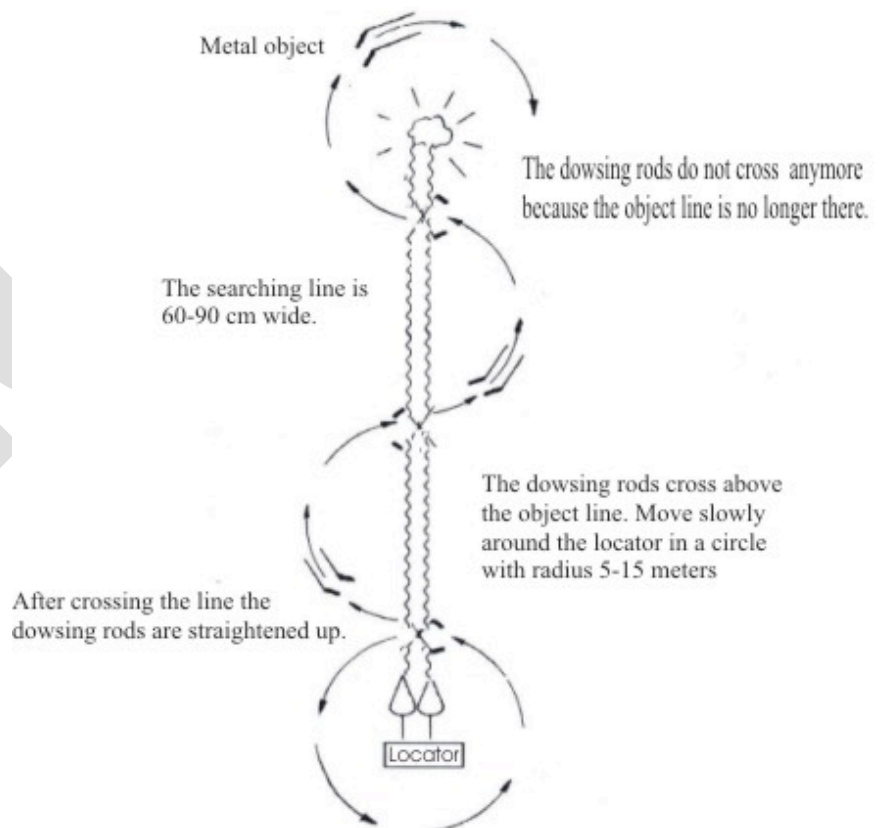
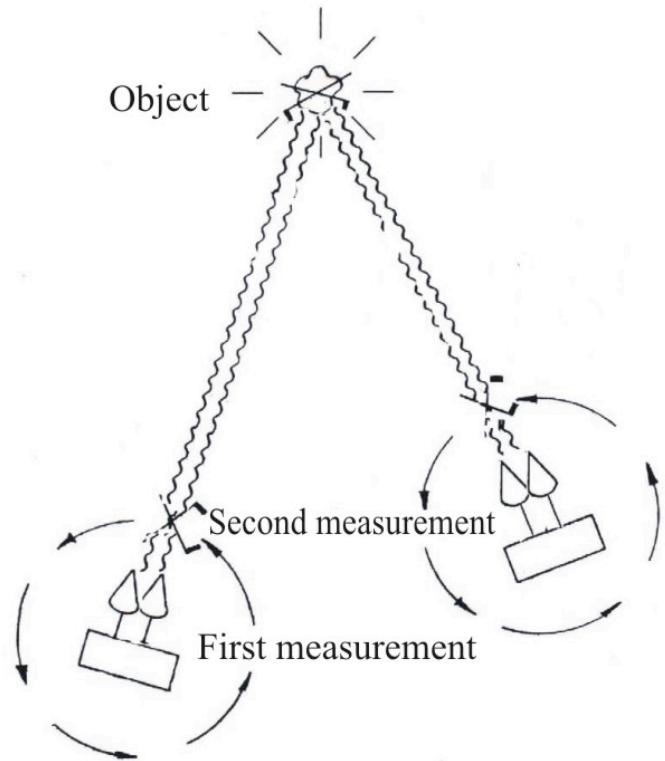

Fig.1 – Method of searching
Fig.3 Measurement
When selecting several collectors with different amounts of gold in them, we can determine the weight of the object. When measuring from another location at 90 degrees to the first one, we can run a second line and when it crosses the first one, we can find out the distance to the object (**Fig. 3**). As we go along the second line and move towards the point of crossing in space, baguettes will not cross.
If the locator detects the desired type of metal, the baguettes will cross. Place there a rod, a stone, a piece of stick, a bunch of grass or other non-metallic objects. Go 3-4 meters back and 10-15 meters to the right of the locator and cross the line of resonance again. If the baguettes cross again and again, put 2, 3, 4 rods and continue until the time when the baguettes do not cross after crossing the marked line (**Fig.1**). After that, go back along the marked line. Stand with your back to the locator (**Fig. 4**) and go with the baguettes along the line. Now, the baguettes will cross when you reach the electronic metal object. If the searched object is close to the locator, that's good, but if the buried metal is not close, then you have to do something else. Once you have found the line of the electronic object and marked 3-4 points with rods, turn off the device and move it 90 degrees to the established line (see **Fig. 3**). Start a new measurement after switching on the device and carrying out all the necessary operations carried out in the first measurement. There should be an interval of 15 to 20 minutes from one
- These 15-20 minutes of rest are required to clear off the previous frequency on and at least 100 seconds for the newly transmitted frequency. If you have not changed the operating frequency and only triangulated at 90 degrees, you will find a new crossing point with the new measurement. If you draw an imaginary line between the locator, the new point and the marked line from the previous measurement, you will see the location of the potential object (see **Fig. 3**). That is not all. Make a few more measurements on the established location to determine the size and depth of the buried object. Pay attention to **Fig. 6**. It shows that there is a crossing in point one, a second crossing on the object, and a third crossing in point two. The way of studying the object is described in detail around **Fig. 6**.